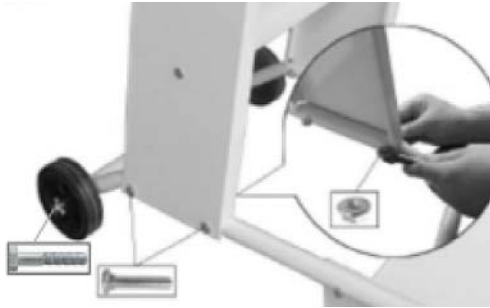

Fig. 4: Mount wheels and side plate
Step 2: Attach the wheels and the two side panels to the bottom of the chassis using the M8x40 square head bolts and nuts (Fig.4).